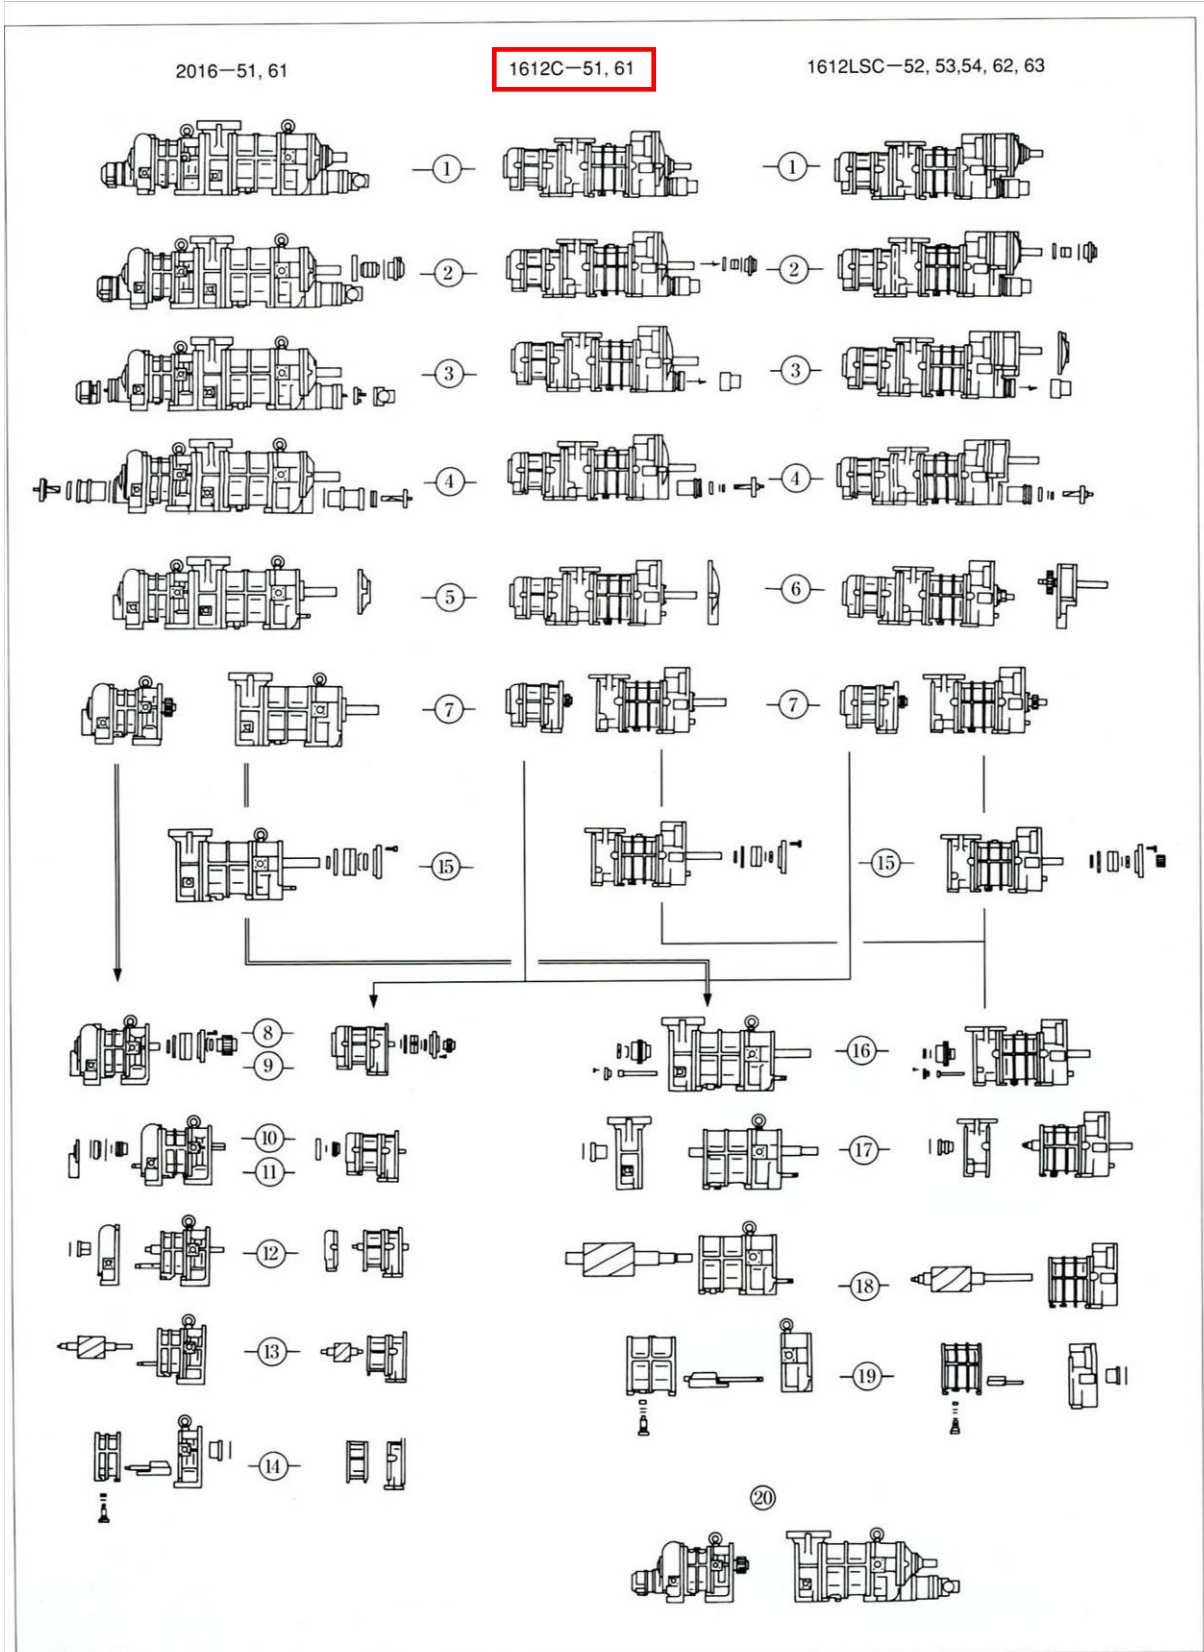

Figure 5-1 Disassembly Order Description
If steps 5 and onwards (apart from 10 and 11) in Figure 5-1 Disassembly Order Description in 5.5 of this chapter will be performed, **do not disassembling while lifting the compressor**, put place the compressor on a work bench as in the lower right photograph, and remove approximately 8 bolts from the lower side of the necessary flange parts. These cannot be removed after lowering the compressor onto the table.
Generally compressors are disassembled in the order shown in Figure 5-1 Illustrated Disassembly Sequence but the order in the figure is just an example and the actual order may differ according to individual situations.
In addition it is often the case that the disassembly of unloader cover/unloader cylinder part from mechanical seal part is performed in the reverse order of shown in the Figure 5-1.
Shown in the steps in the Figure 5-1, ① through ⑤, ⑩ and ⑪, you can disassemble the compressor with the compressor attached on its frame.